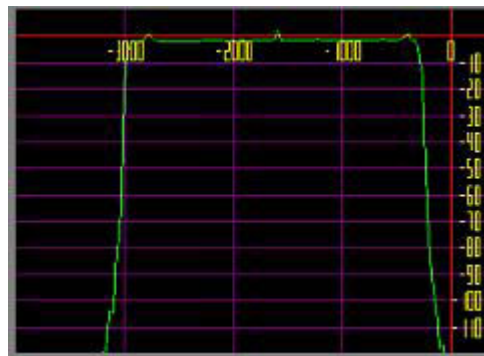

Figure 6 – 2.7KHz Filter
**Figure 6—The PowerSDR Transmit setup tab permits adjustments to the 12 octave transmit audio equalizer, transmit compression, transmit filter and the “tune” power level.**